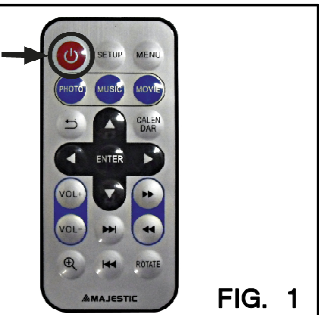

FIG. 1
- DURANTE LA RIPRODUZIONE DEL FILMATO, PREMENDO BREVEMENTE IL TASTO "Power" SUL TELECOMANDO (VEDI FIG. 1), E' POSSIBILE SPEGNERE O RIACCENDERE LA CORNICE DIGITALE
- WHILE PLAYING, BY SHORTLY PRESSING BUTTON "Power" ON THE REMOTE CONTROL (SEE FIG. 1) IT IS POSSIBLE TO STOP AND RESTART THE VIDEO